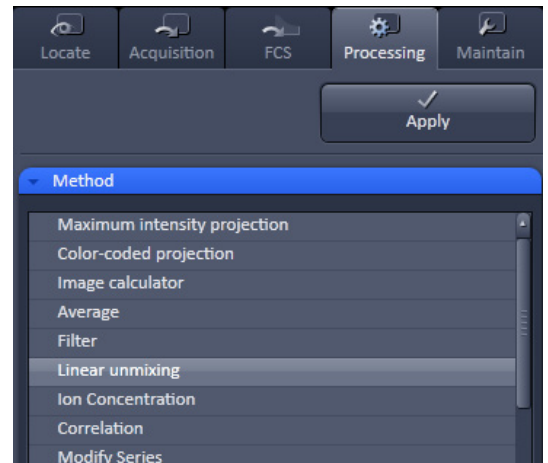

Fig. 389 Processing – Linear Unmixing
- To open the **Linear unmixing** tool, click on **Linear unmixing** in the **Processing** tool list in the **Processing** tab (Fig. 389).